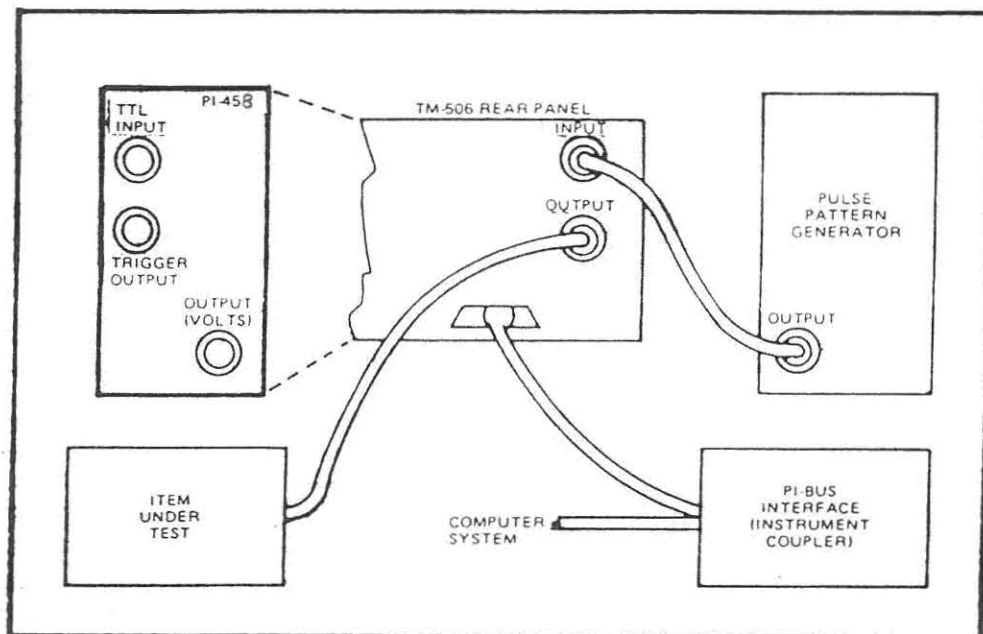

Figure 2-1 Typical Interconnections
a. Connect coaxial input cable from test clock source to either the front panel TTL INPUT connector, or to the rear panel INPUT connector (see Figure 2-1).